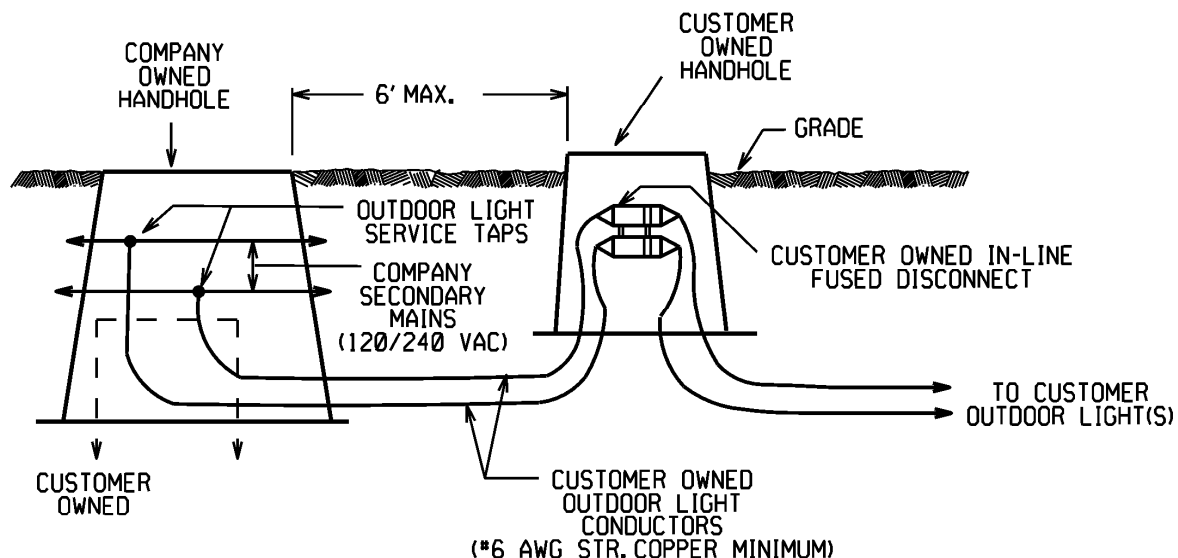

Figure 9 – Connection of Underground Supplied Customer Owned Outdoor Lighting to National Grid Handhole or Manhole – Standard Connection
1. Install customer owned handhole as shown in Figure 9. Customer owned handhole shall house the in-line fused disconnect. See page 14 for details on the in-line fused disconnect.